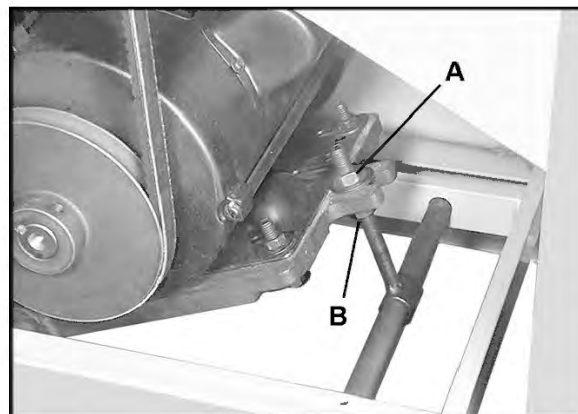

Figure 13
4. To increase the tension on the drive belt, loosen the lower hex nut (B, Figure 13) with a 17mm wrench, and tighten the top hex nut (A, Figure 13). When finished, tighten lower hex nut (B, Figure 13).
3. On the motor base plate, loosen the top hex nut (A, Figure 13) and lift the motor to create slack in the drive belt. Remove the drive belt from both pulleys.